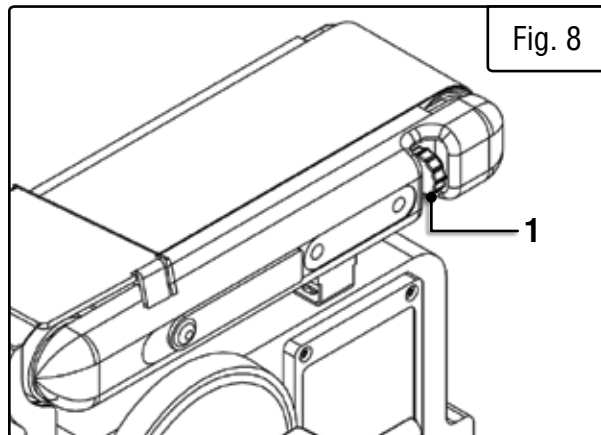

Fig. 8
- a. If the sanding belt moves toward the disc, slightly turn the tracking knob (Fig. 8 - 1) counterclockwise.